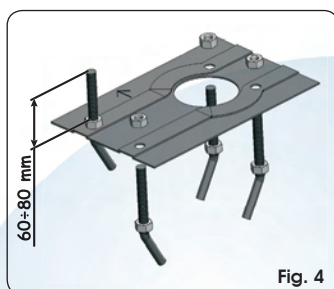

Fig. 4
1. Assemble the foundation plate as in Fig. 4.